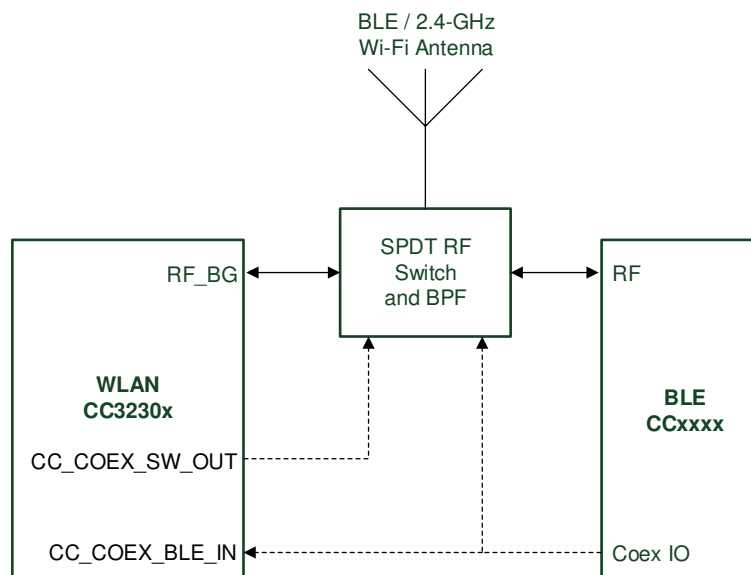

图 9-1. Single-Antenna Coexistence Mode Block Diagram
- In this mode, (see 图 9-1) the two entities share the antenna through an RF switch using two GPIOs (one input and one output from the WLAN perspective).
图 9-1 shows the single antenna implementation of a complete Bluetooth® low energy and WLAN coexistence network. The Coex switch is controlled by a GPIO signal from the BLE device and a GPIO signal from the CC3230x device.